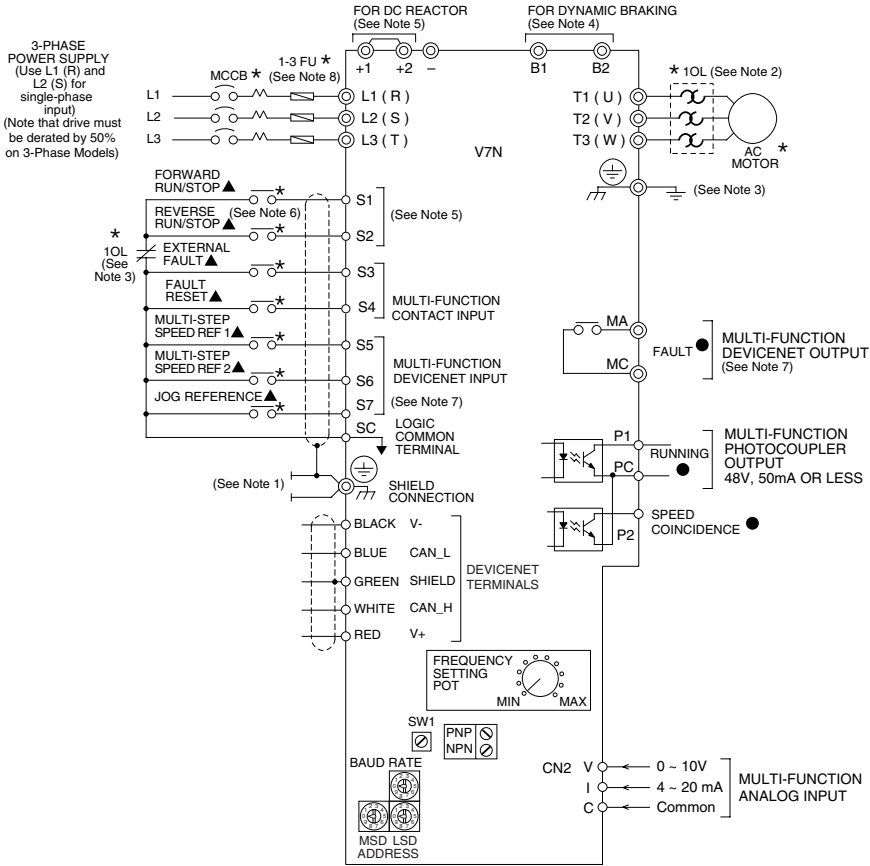
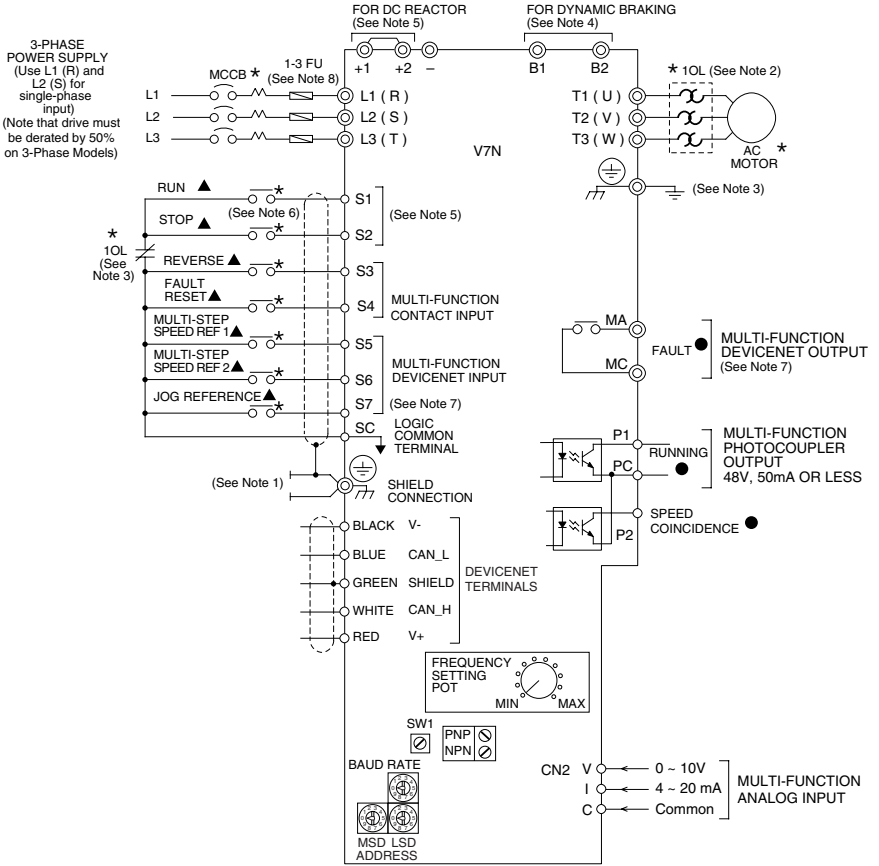

Figure 1-5. Standard Connections (2-Wire Control)
Figure 1-6. Standard Connections (3-Wire Control)
Notes for Figure 1-5 (2-Wire Control) and Figure 1-6 (3-Wire Control)
- The Drive leaves the factory with all parameters set for 2-wire external control/reference control. To use the Drive in a 3-wire application, Drive parameters n001, n003 and n004 must be reprogrammed and Figure 1-6 used for all external connections.